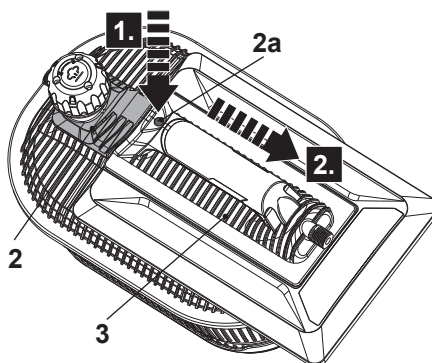

Fig. 2
- > Press down the lock button (2a) and remove the steam plate (3) from the carry handle (2) (Fig. 2).